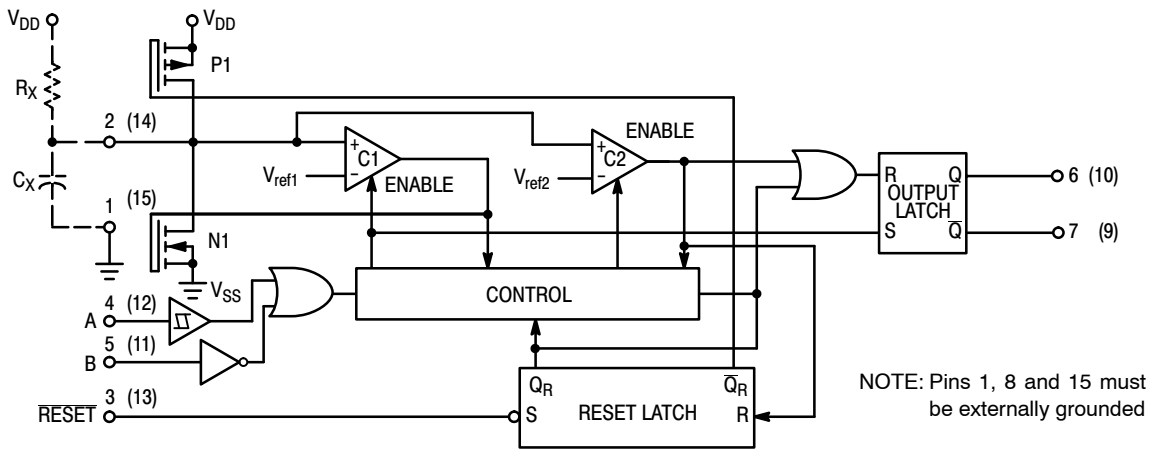

**Figure 1. Logic Diagram
The block diagram of the MC14538B is shown in Figure 1, with circuit operation following.
As shown in Figure 1 and 10, before an input trigger occurs, the monostable is in the quiescent state with the Q output low, and the timing capacitor C_X completely charged to V_{DD} . When the trigger input A goes from V_{SS} to V_{DD} (while inputs B and $\overline{\text{Reset}}$ are held to V_{DD}) a valid trigger is recognized, which turns on comparator C1 and N-channel transistor N1 ①. At the same time the output latch is set. With transistor N1 on, the capacitor C_X rapidly discharges toward V_{SS} until V_{ref1} is reached. At this point the output of comparator C1 changes state and transistor N1 turns off. Comparator C1 then turns off while at the same time comparator C2 turns on. With transistor N1 off, the capacitor C_X begins to charge through the timing resistor, R_X , toward V_{DD} . When the voltage across C_X equals V_{ref2} , comparator C2 changes state, causing the output latch to reset (Q goes low) while at the same time disabling comparator C2 ②. This ends at the timing cycle with the monostable in the quiescent state, waiting for the next trigger.